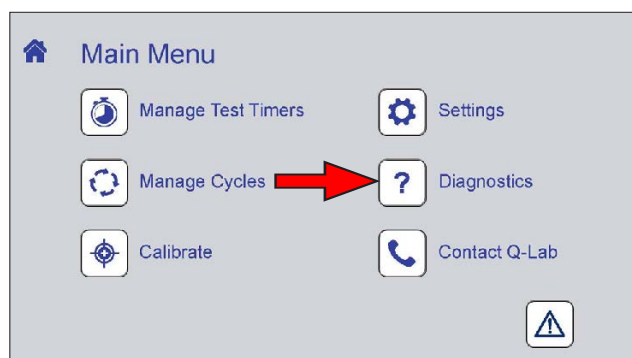
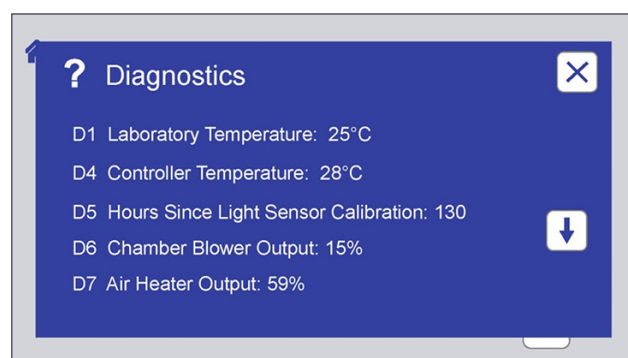

Figure 11.8a: Touch the Diagnostics icon on the Main Menu screen to display diagnostic information.
Figure 11.8b: The Diagnostics screen displays current machine operating conditions.
- Diagnostics are a list of tester current operating conditions (Figure 11.8a).
- On the Main Menu screen, touch the Diagnostics icon (Figure 11.8a) to display the Diagnostics screen (Figure 11.8b).